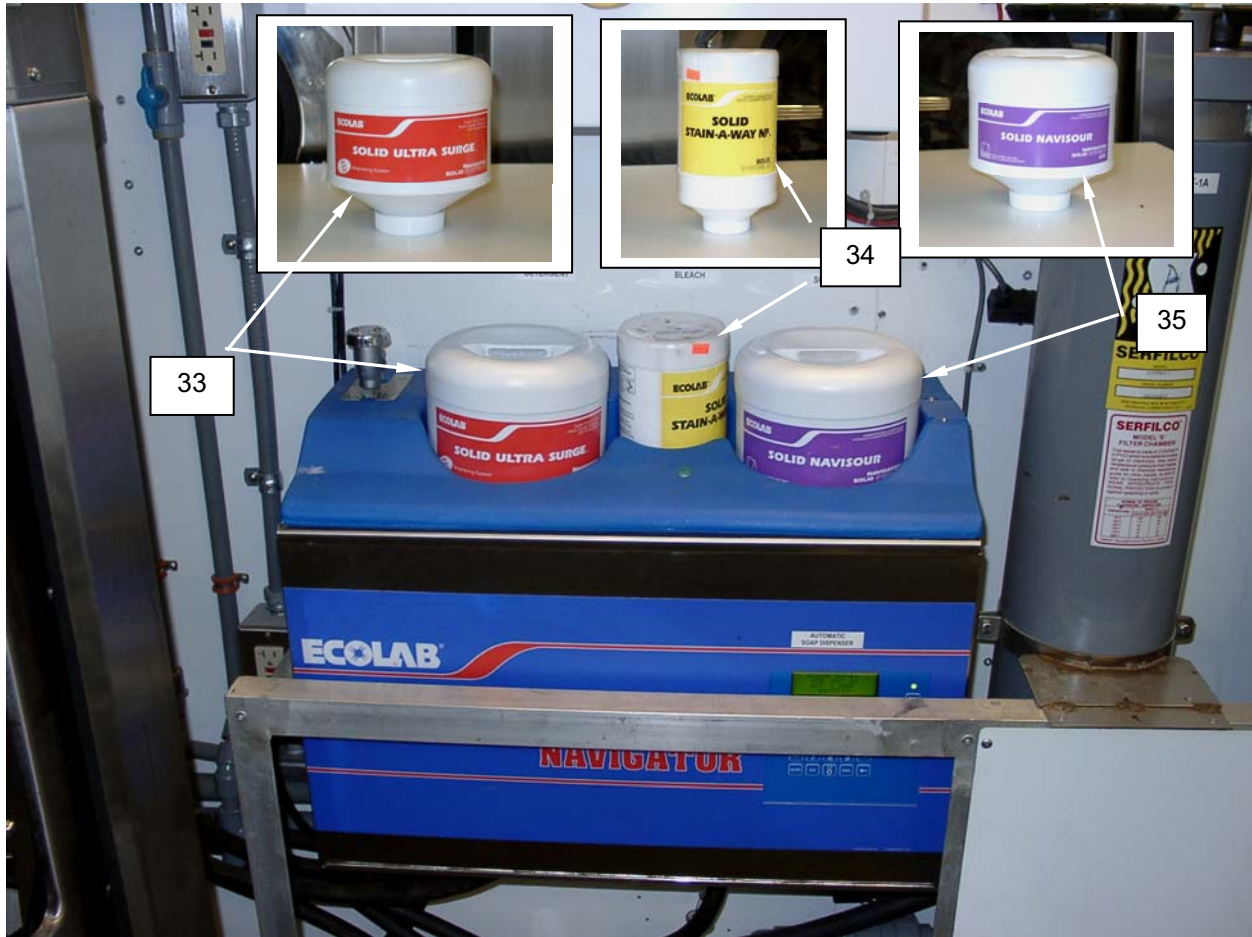

Figure 19. Automatic Soap Dispenser.
2. Remove the lid from the detergent canister (**Figure 19, Item 33**). Invert the detergent canister (**Figure 19, Item 33**) and quickly place the canister in the recess closest to washer No.1.
3. Remove the lid from the bleach canister (**Figure 19, Item 34**). Invert the bleach canister (**Figure 19, Item 34**) and quickly insert the canister into the center recess.
4. Remove the lid from the laundry sour canister (**Figure 19, Item 35**). Invert the laundry sour canister (**Figure 19, Item 35**) and quickly insert the canister into the remaining recess.